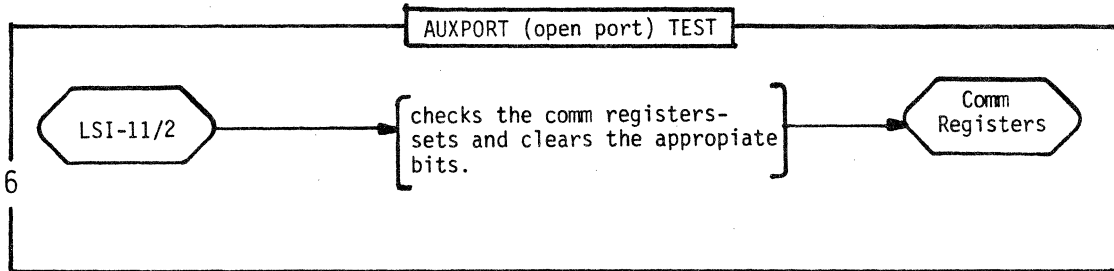

Fig. 4-15. Open port test.
6. OPEN PORT TEST (Fig. 4-15). For the open port test the LSI-11/2 processor checks the appropriate comm register bit. The test sets and clears the proper bits thus certifying that the proper port function was accessed. Since this test does not read data from the port, its function is very limited.